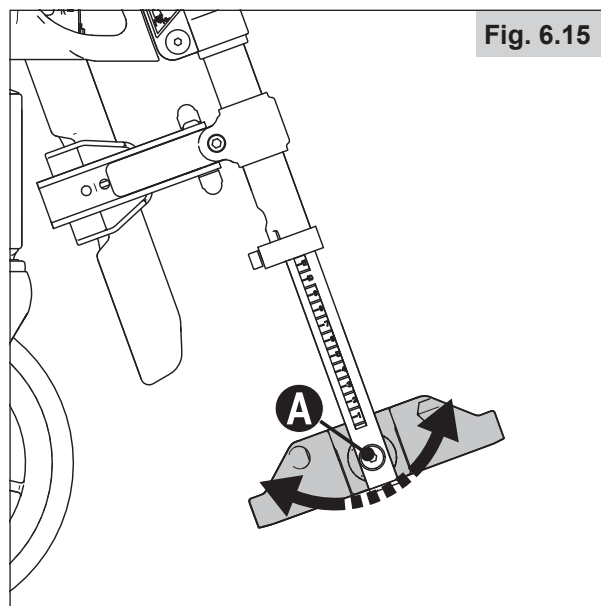

Fig. 6.15
6.14 Footplate – angle adjustment (Fig. 6.15)